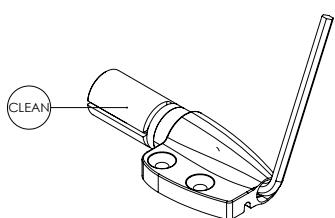
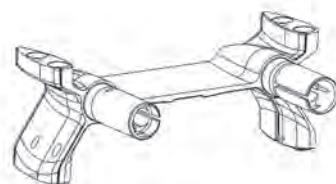

Fig. 23.1
Fig. 23.2
There are two types of extension fixings: the «extension supports» (Fig. 23.1) and the «BRIDGE» (Fig. 23.2).
- 1- Degrease and clean the expanding part of the clamps in contact with the inside of the extensions to improve their grip. (Fig. 23.1)